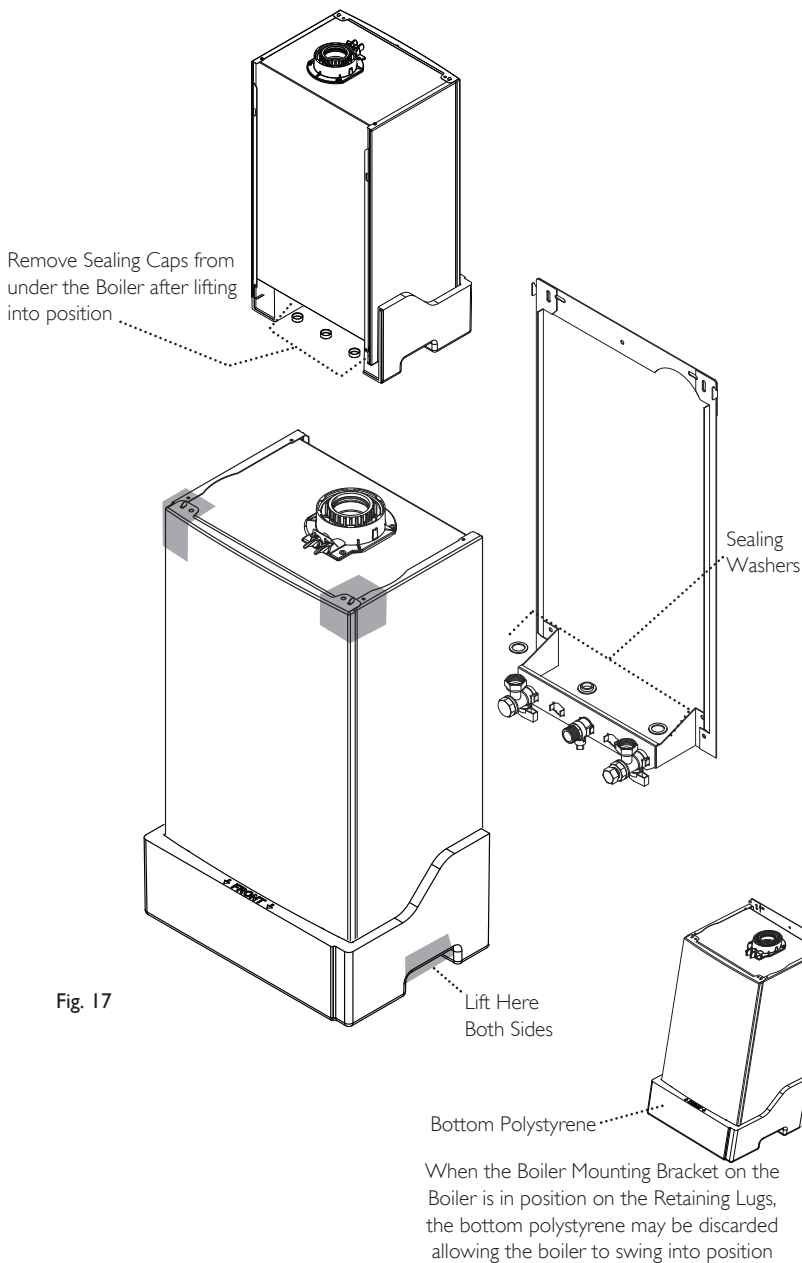

Fig. 17
9.4 Fitting The Boiler (Fig. 17)
1. Lift the boiler using the Lifting Points as shown by the shaded areas (Fig. 17). The boiler should be lifted by TWO PEOPLE. Engage the slots at the top rear of the boiler on the wall plate (Fig. 17) (see **Safe Manual Handling** page 5).